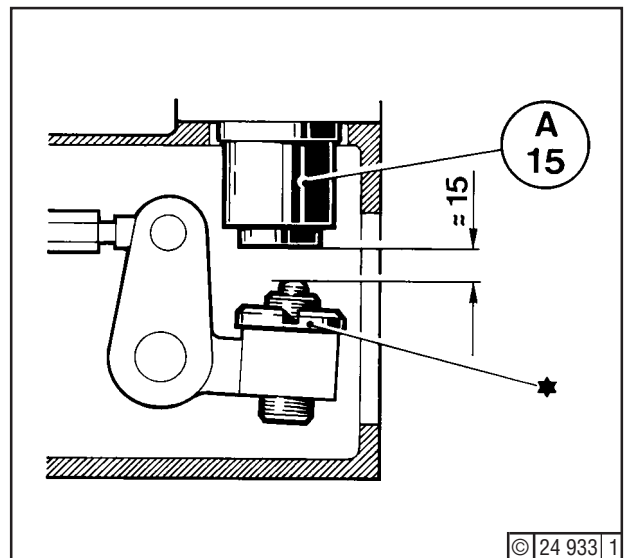

Fig. 11
8. Refit the tools (see under 5.) , then check whether, at operating position of the spring-loaded cylinder A15 (Fig. 11) and contact of the control rods at the check stops (points A18, A19 and A20), there is a clearance of approx. 15 mm.